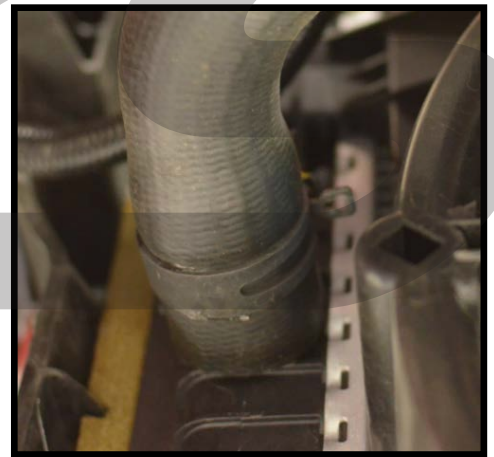

Figure 4c
- c) **Install the CorkSport coolant hose.** Install like Figure 4c and reuse the OEM spring clamps.